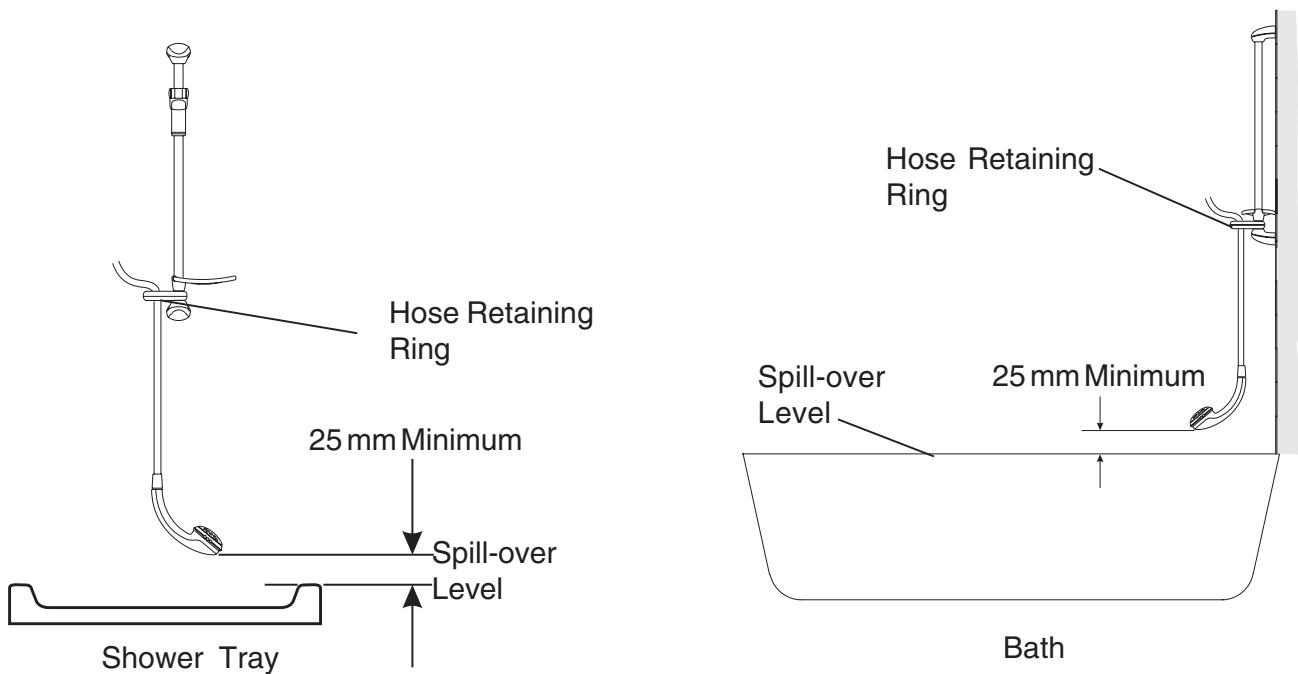

Figure 1
13. A hose retaining ring is supplied to prevent the handset from dropping below the spillover level of the bath or shower, which could lead to contamination from back-siphonage (refer to Figure 1). The supplied hose retaining ring should meet the great majority of user requirements for shower installations with flexible outlet fittings. However, there will be occasions when the hose retaining ring will not provide a suitable solution. Double checkvalves, fitted in the inlet supply to the appliance, cause a pressure build-up, which could exceed the maximum static inlet pressure for the appliance. In these instances an **outlet** double checkvalve, e.g. the Mira DCV-H, **must** be fitted. The inclusion of the Mira DCV-H will increase the required supply pressure typically by 0.1 bar.
1. Decide on a suitable position for the Mira Sprint (minimum distance of 200 mm from the ceiling to allow for cover fit and removal). The position of the Mira Sprint and the shower fittings must provide a minimum gap of 25 mm between the spill-over level of the shower tray/bath and the handset. This is to prevent backsiphonage (refer to Figure 1, **INSTALLATION REQUIREMENTS**).